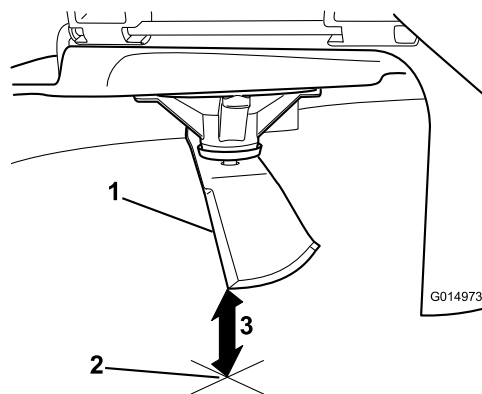

Figure 50
- Measure from the tip of the blade to the flat surface (Figure 50).